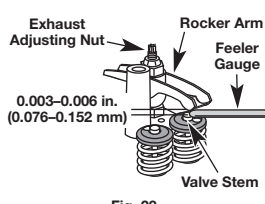

Fig. 23
- Slide the feeler gauge between the rocker arm and the valve return spring. Measure the clearance between the valve stem and rocker arm (Fig. 23). Measure both the intake and exhaust valves.
The recommended clearance for both intake and exhaust is .003 – .006 in. (.076 – 0.152 mm). Use a standard automotive .005 in. (0.127 mm) feeler gauge. The feeler gauge should slide between the rocker arm and valve stem with a slight amount of resistance, without binding (Fig. 23).
- Turn the adjusting nut using a 5/16 inch (8 mm) wrench or nut driver (Fig. 23).